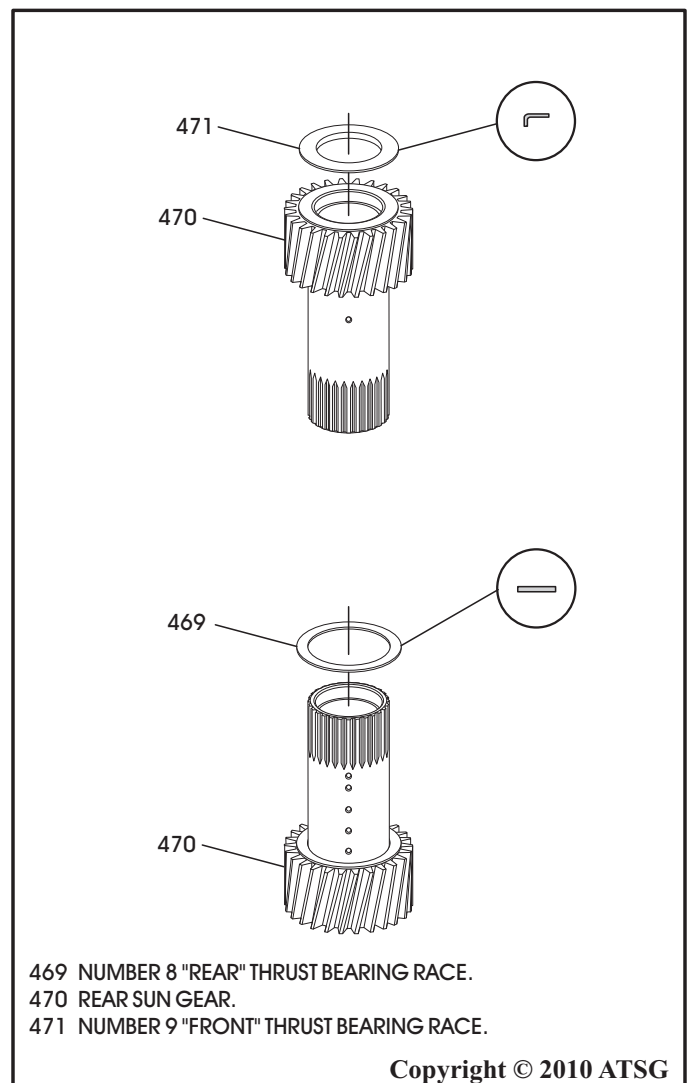

Figure 134
10. Install the number 8 "rear" thrust bearing race on the front side of rear sun gear, as shown in Figure 134, and retain with Trans-Jel®.
11. Install the number 9 "front" thrust bearing race on the rear side of rear sun gear, as shown in Figure 134, and retain with Trans-Jel®.